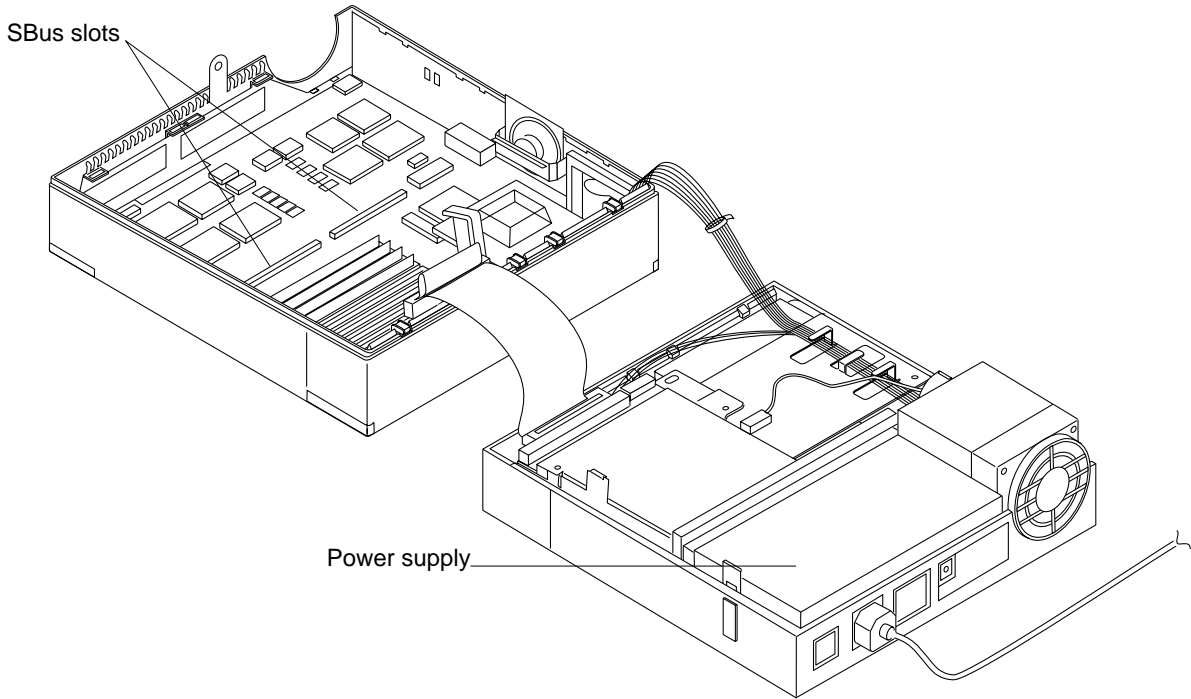

Figure 3-2 Open Two-slot SPARCstation System Unit
3. **Flip the top cover of the system unit completely over, as shown in Figure 3-2.**
Figure 3-2 shows the power supply.